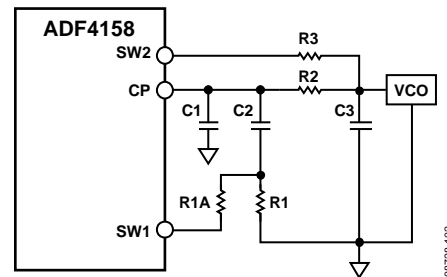

Figure 47. Fast-Lock Loop Filter Topology—Topology 2
- Connect an extra resistor (R1A) directly from SW1 (see Figure 47). The extra resistor must be selected such that the parallel combination of an extra resistor and the damping resistor (R1) is reduced to $1/4$ of the original value of R1.